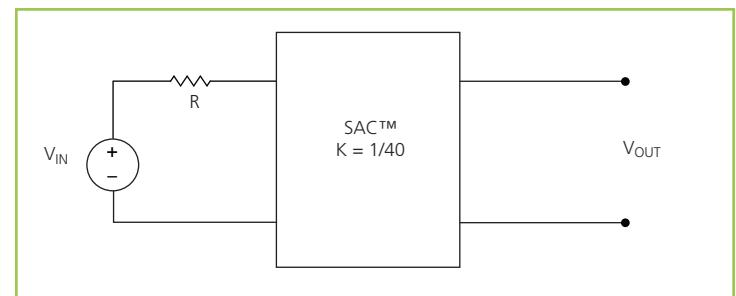

Figure 18 –  $K = 1/40$  Sine Amplitude Converter with series input resistor
$R_{OUT}$  represents the impedance of the SAC, and is a function of the  $R_{DS(on)}$  of the input and output MOSFETs and the winding resistance of the power transformer.  $I_Q$  represents the quiescent current of the SAC control and gate drive circuitry. The use of DC voltage transformation provides additional interesting attributes. Assuming that  $R_{OUT} = 0 \Omega$  and  $I_Q = 0 A$ , Eq. (3) now becomes Eq. (1) and is essentially load independent, resistor R is now placed in series with  $V_{IN}$  as shown in Figure 18.
Assuming that  $R = 1 \Omega$ , the effective  $R$  as seen from the secondary side is  $0.63 \text{ m}\Omega$ , with  $K = 1/40$  as shown in Figure 18.